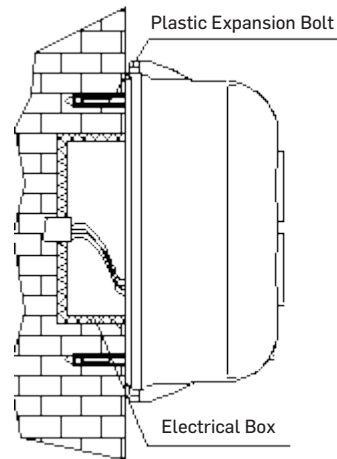

Fig.8
- The detector base should be fixed to the wall using two plastic expansion bolts and two plain washers. The mounting of the detector is shown in Fig.8.